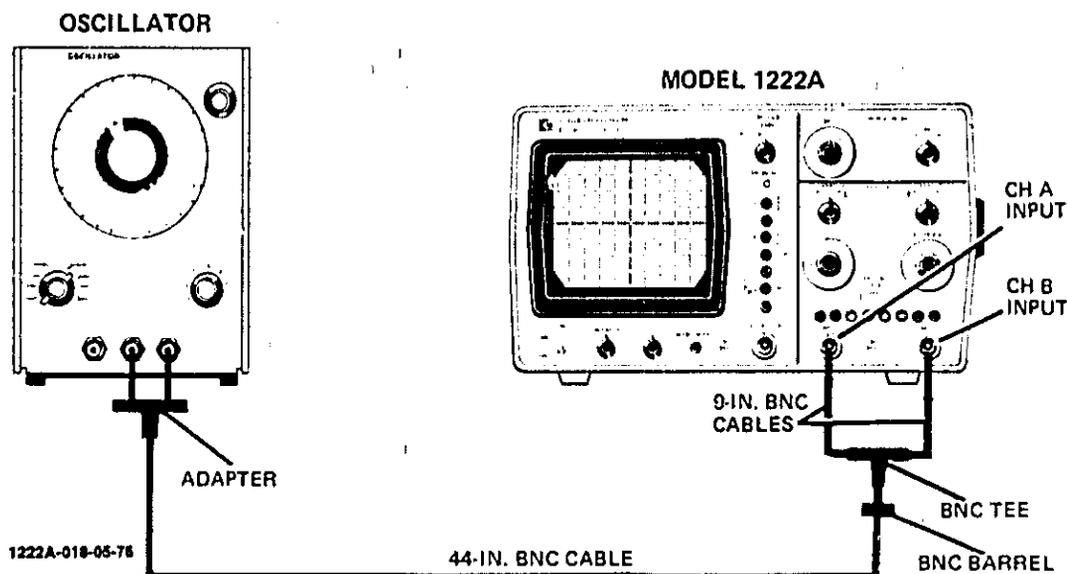

Figure 5-10. Common-mode Rejection Test Setup
- a. Connect equipment as shown in figure 5-10.